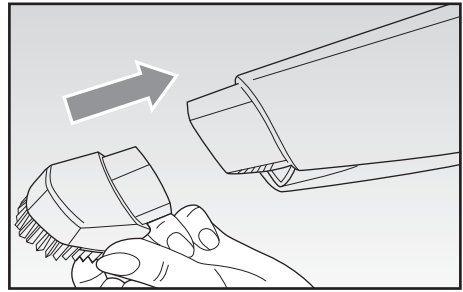
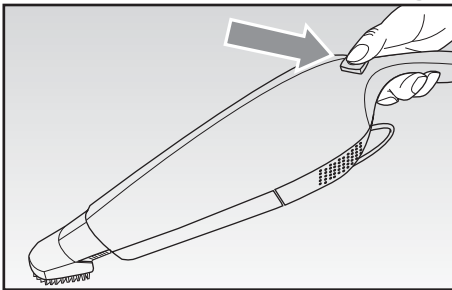

Fig. 4
Fig. 5
- At the end of the dust container (F), apply the required attachment (Fig. 4); press the switching on button (B) to start the appliance by means of the apposite handle (Fig. 5).